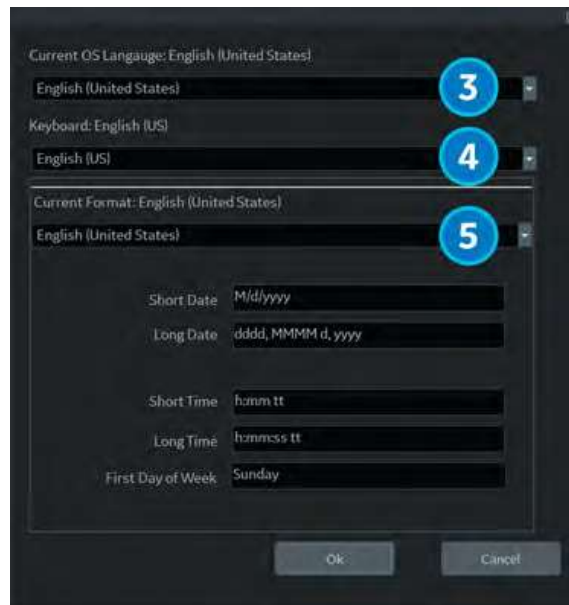

Figure 3-21. Regional Options Dialogue Box
- **Current OS Language** - Select the language from the dropdown menu (3) to match the system language selected in Step 1.
- **Keyboard** - Select the keyboard language preference from the dropdown menu (4).
- **Current Format** - Select the date and time format preference from the dropdown menu (5).
**NOTE:** *For the United Kingdom, it is recommended to use ENG Language (1), English (United States) OS Language (3), and modify "Current Format" time/date settings to English (United Kingdom) (4) (see Figure 3-21 on page 3-41).*